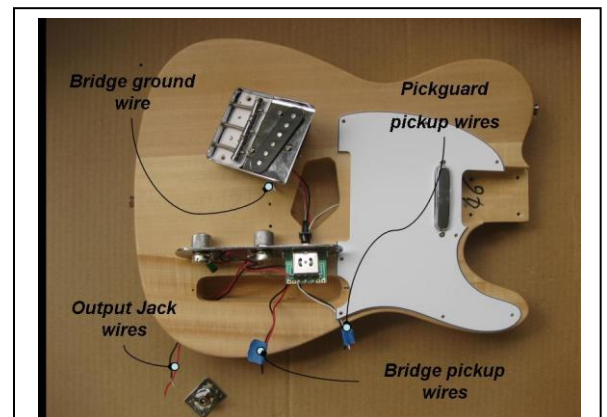

Figure 4.1.2 Body Wiring
4.1.2 Bridge Wiring (reference Figure 4.1.2 for wiring detail)
1. Solder the signal and ground wires to the jack (see Figure 4.1.2)
2. Attach jack mounting plate to the body with the supplied mounting screws (4).